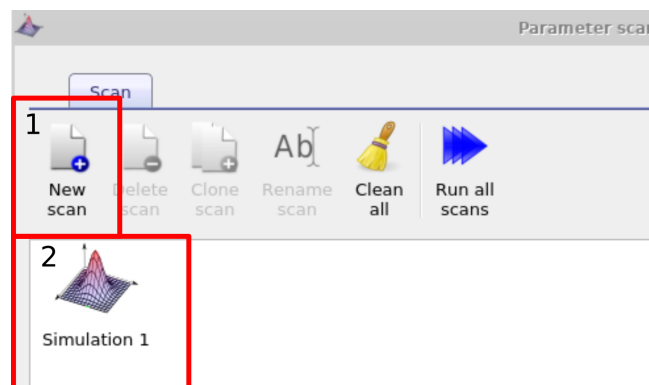
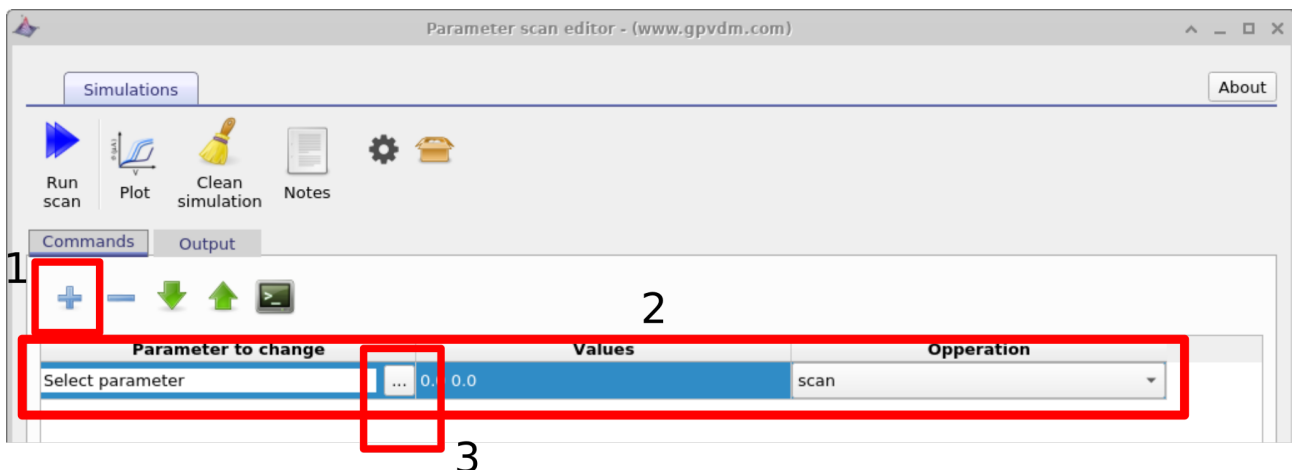

Figure 13.2: Step 2: Make a new parameter scan, then double click on it to open it.
Figure 13.3: Step 3: Add a 'scan line' to the scan.
Then make a new scan by clicking on the new button (1) then open the new scan by double clicking on the icon representing the scan (2). See figure 13.2. This will bring up the scan window, see figure 13.3.